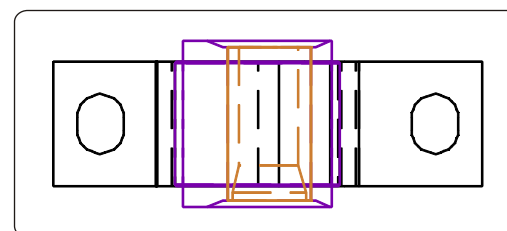
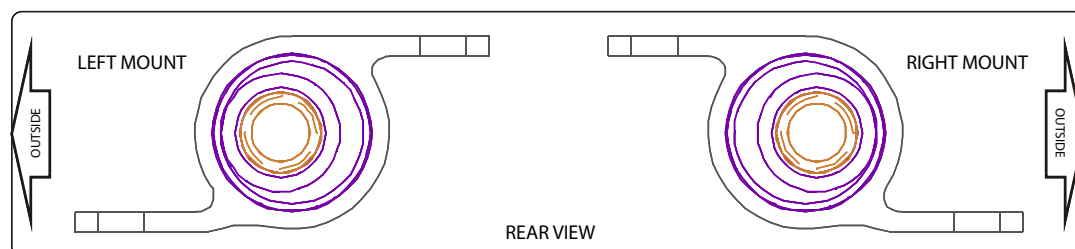

Fig 2. Exploded View
Fig 3. Maximum Positive caster setting
3. With the bush off-set rotated to obtain the desired outcome, using suitable adaptors pressing on the metal shell only, carefully press in new Powerflex bushes into the original aluminium mounts, so that the metal shell is fully engaged in the mount as shown in fig. 2. Tip: For maximum vehicle stability, roadholding and performance, Powerflex recommends to install the bush for maximum positive caster off-set. Refer fig. 3. To maintain suspension and geometry symmetry, new bushes must be installed with the off-set in the same mirror position. That is, when viewing from the rear of the car, right set at 3 o'clock /left set at 9 o'clock.